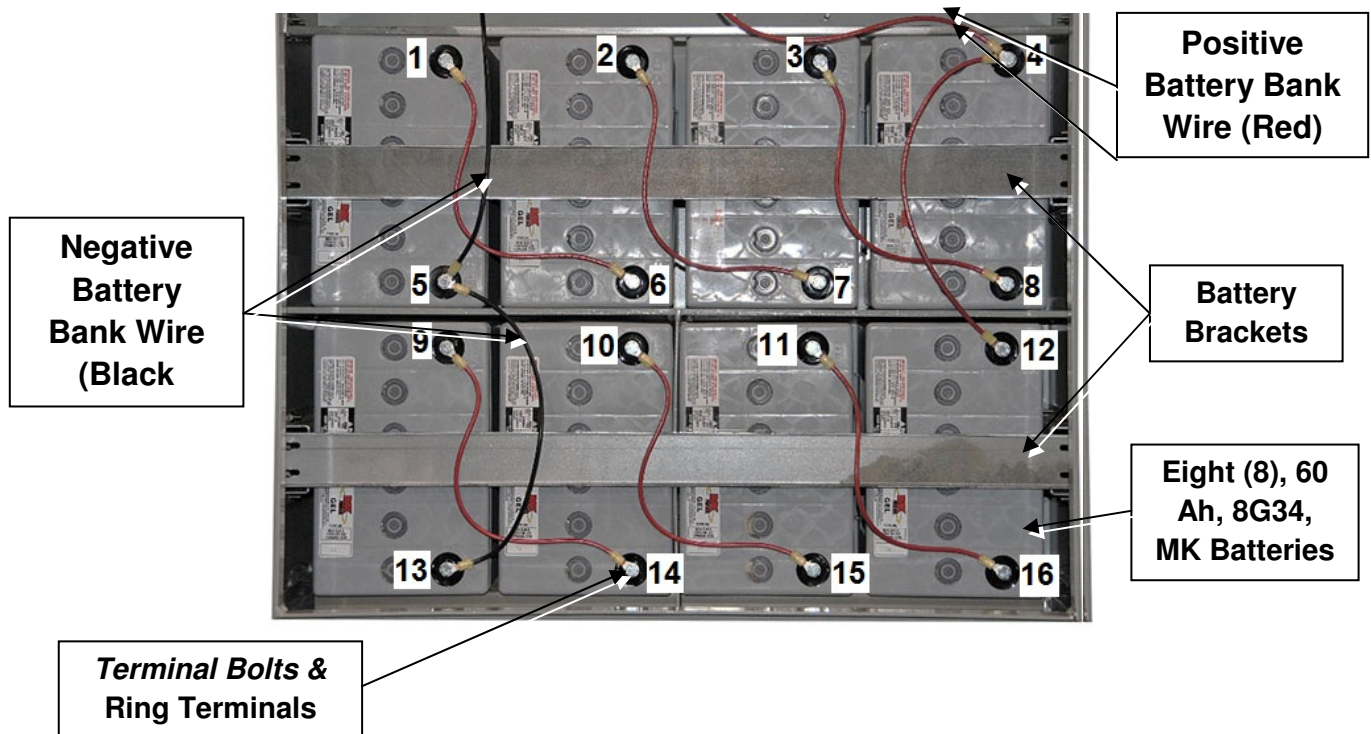

Figure 17: Eight (8), 60 Ah Batteries Shown in Open Battery Compartment
6.21 The battery compartment holds eight (8) 60 Ah, 8G34, MK Batteries. See Figure 17.